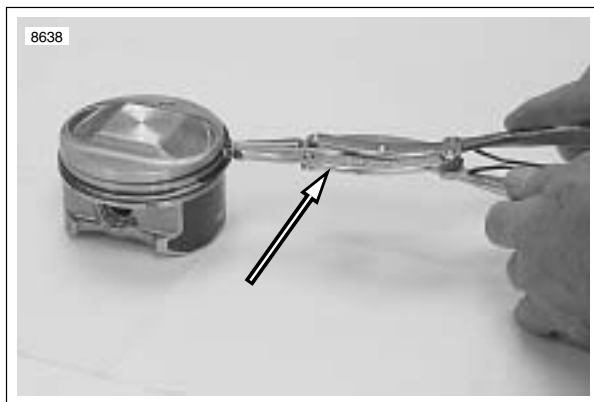

Figure 3-93. Installing Piston Rings Transmission Shaft Retaining Ring Pliers (Part No. J-5586)
2. See Figure 3-93. Apply engine oil to piston grooves. Use TRANSMISSION SHAFT RETAINING RING PLIERS (Part No. J-5586) to slip compression rings over piston into their respective grooves. Be extremely careful not to over expand, twist rings or damage piston surface when installing rings.